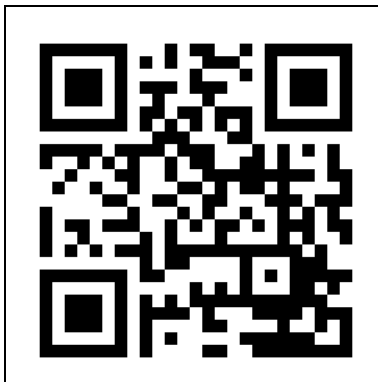

Figure 17
1. Open the Eurom Smart app manual with the QR code (Figure 17) or go to www.eurom.nl/nl/manuals.